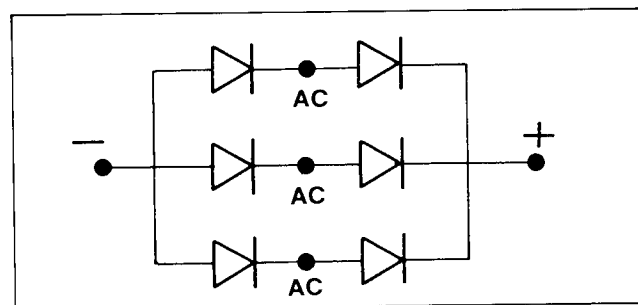

Figure 3-20. Mini-Bridge
1. Check mini-bridge (Figure 3-20).